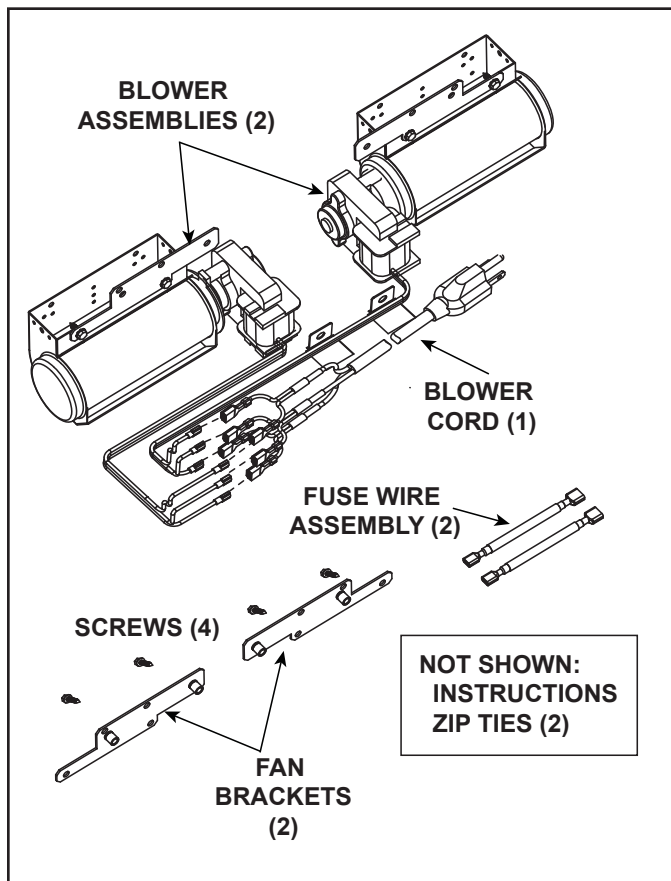
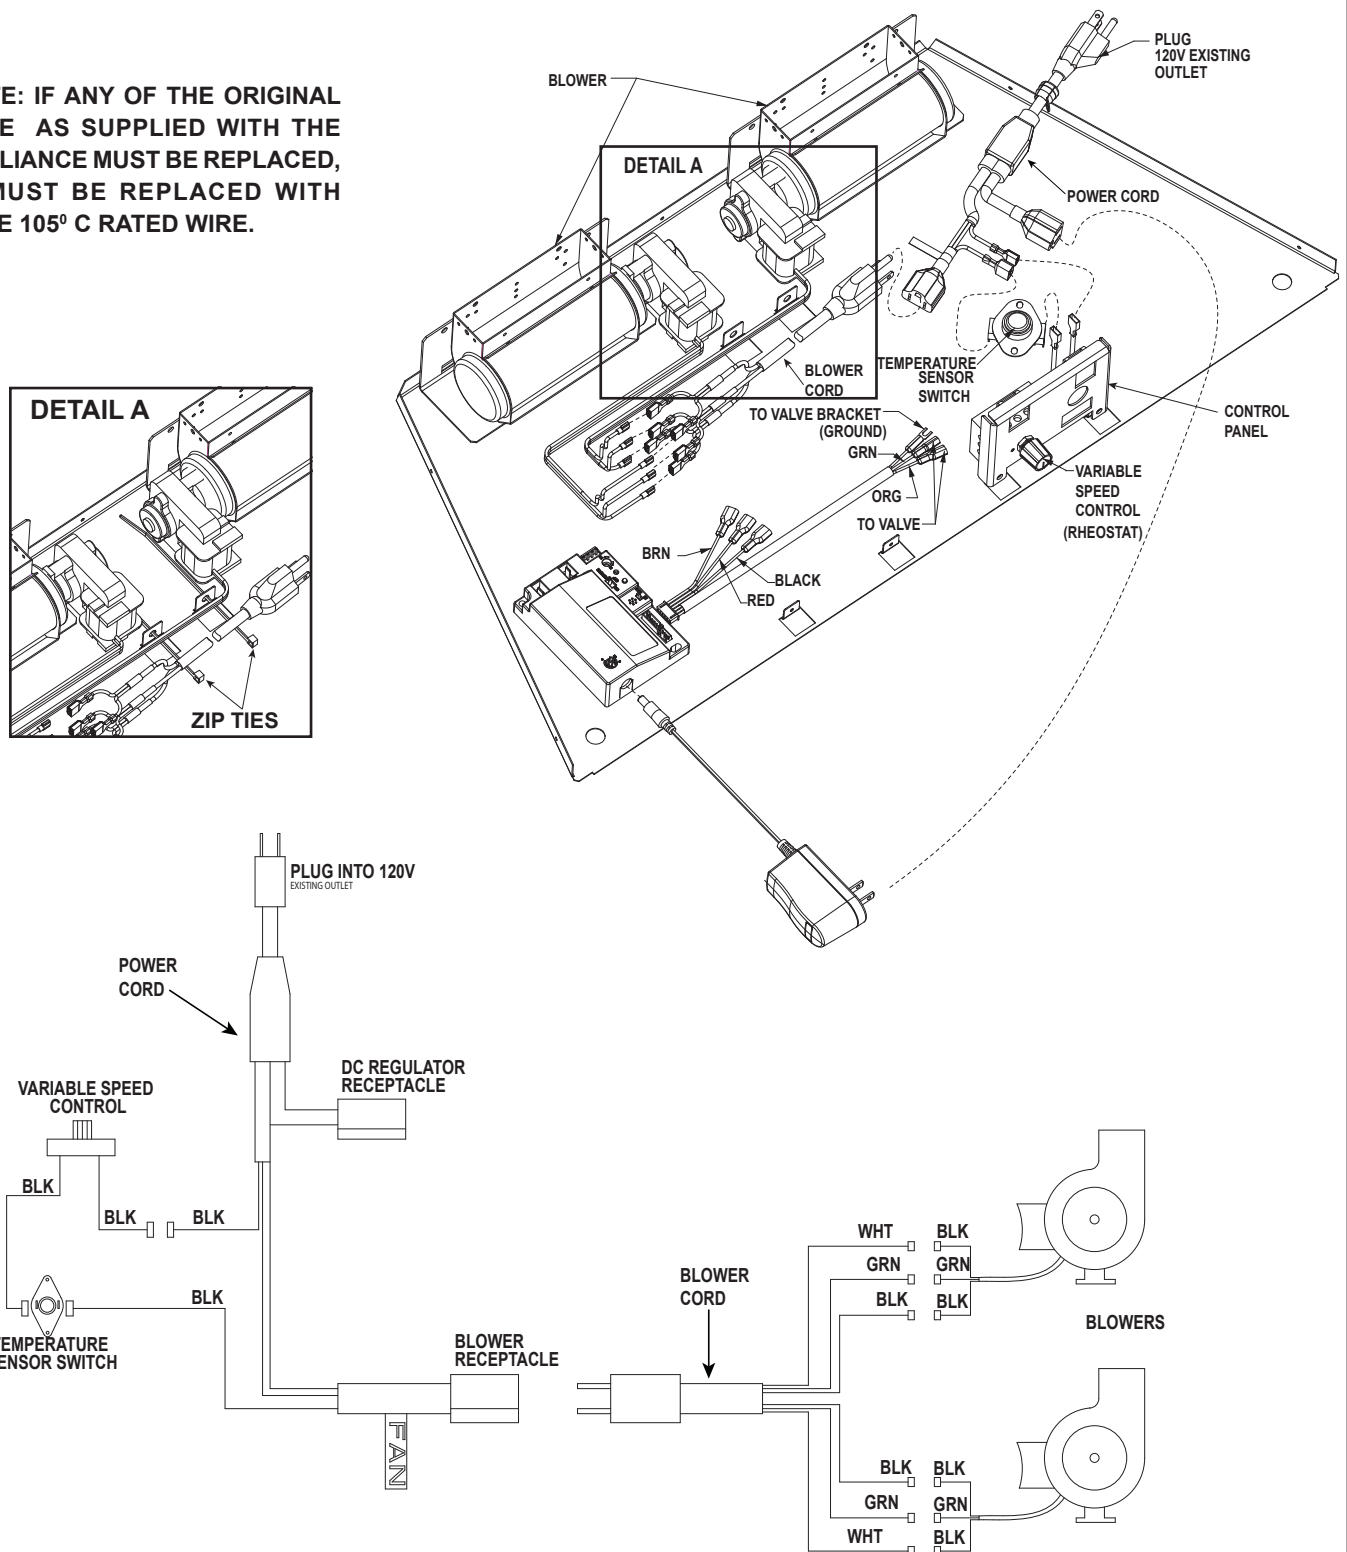

Figure 1. Carton Contents - GFK-210-C
Figure 7. Fan Wiring Diagram - Metal Insert Without RC200/RC300
Compare CONTENTS OF CARTON in Figure 1 with the actual parts received. If any parts are missing or damaged, contact your dealer before starting installation.
5. Plug the blower cord into the blower receptacle. Connect the white, black, and green spade connectors from blower cord harness to each blower. See Figure 1 and Figure 7.
6. Bundle and zip tie any wires to keep them from contacting the fan blades. See Figure 7, Detail A.
3. Connect the variable speed control and the temperature sensor switch to the power cord. See Figure 7.
4. Gather the loose wires underneath the appliance and use the zip ties to restrain them and keep them away from the blower wheel (fan blades). See Figure 7, Detail A.